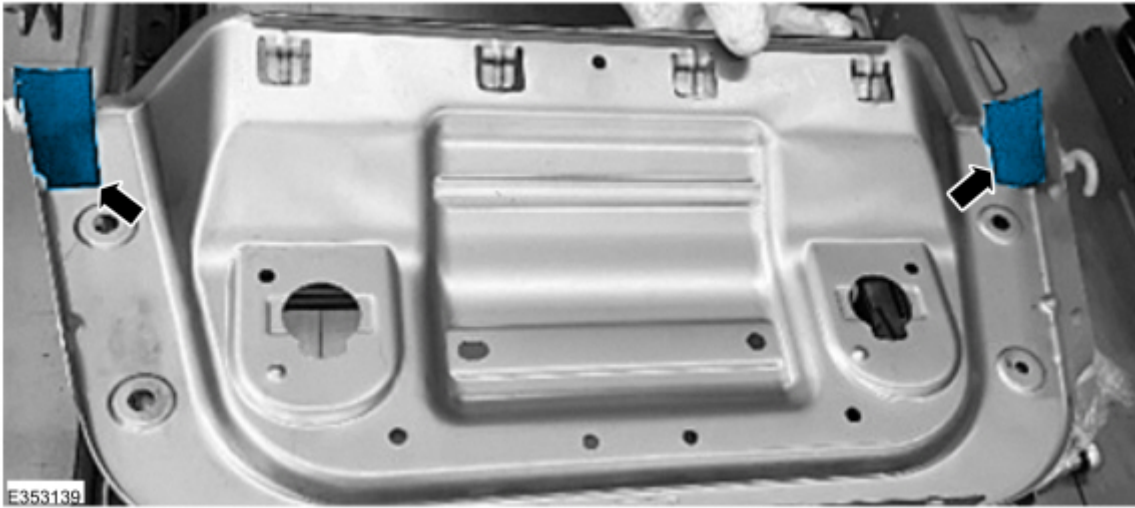

Figure 5
- (1). Attach felt underneath the half pan at the 2 points shown below using around 50% of the felt. Make sure the felt is touching the area where the pan meets the seat side frames. (Figure 5)